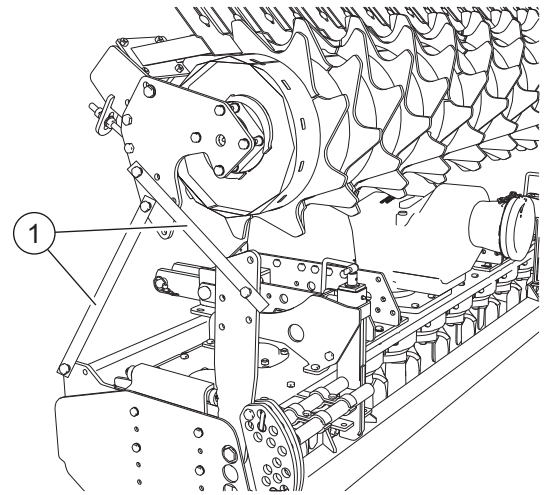

FIG. 9
The machine may be delivered with the roller disassembled from the supports and hitched with iron clamps (1, "Fig. 9") on the machine.
- Loosen the screws fixing the clamps (1, "Fig. 9") to the roller.
- Impede the rotation of the scraper holder bar (1).